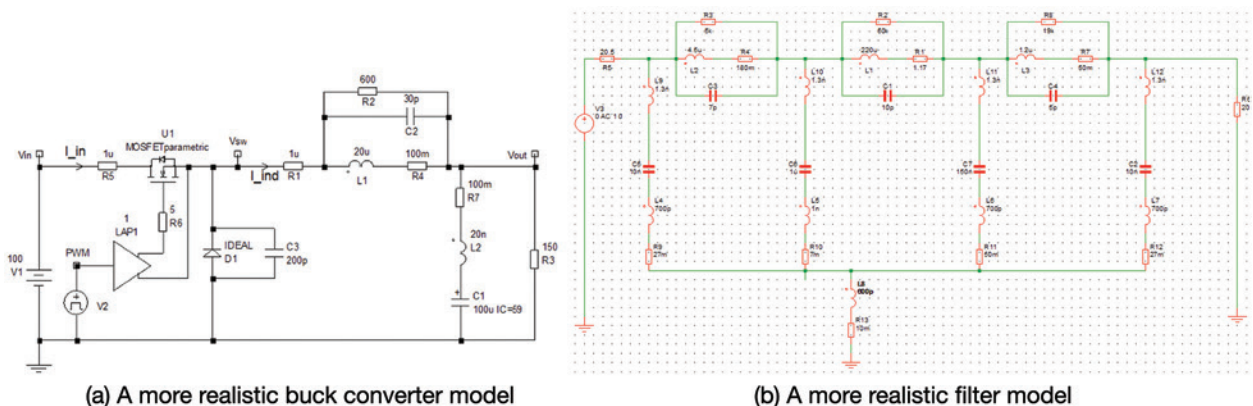

Figure 5: (a) a more realistic simulation circuit of a buck converter, including key parasitics, (b) a more realistic filter circuit (differential mode only).
1. *Simulation model detail:* Does the model capture all parasitics, such as leakage inductance of transformers and parasitic capacitance of switching devices (Figure 5(a))?
R components been considered? Engineers should use a more realistic passive component model based on the impedance curves provided by manufacturers (as shown in Figure 5 (b))